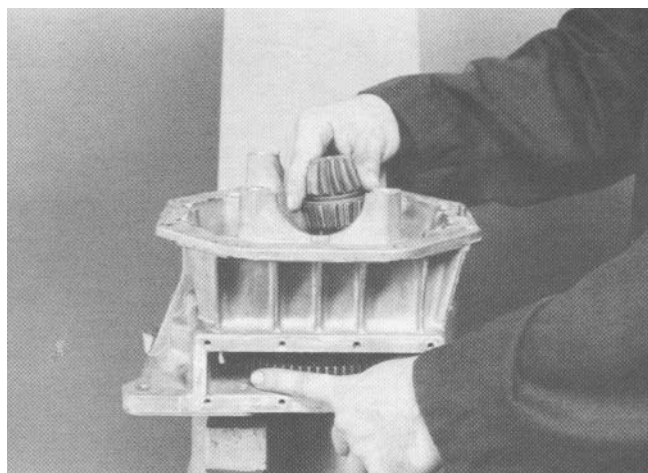

Figure 41
6. Insert the spur gear into the front housing with the chamfered area of the center spline toward the pinion gear. Tap the pinion gear with a soft mallet to engage the splines in the spur gear (Fig. 41).